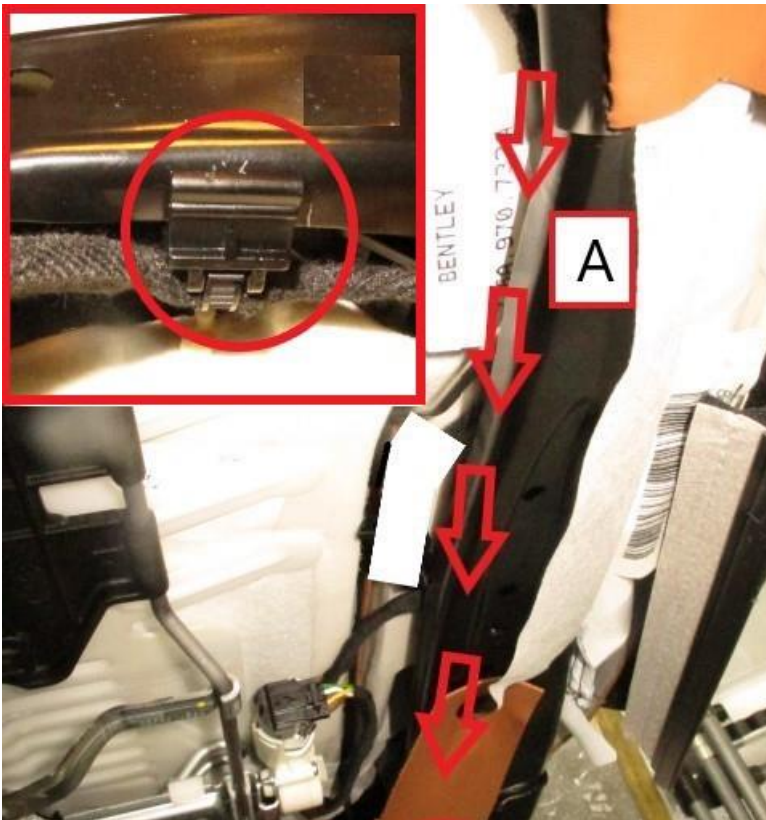

Figure 12
11) Referring to Figure 12 (Right hand) the harness can be secured to the seat frame (Point A) using the pre fitted clips